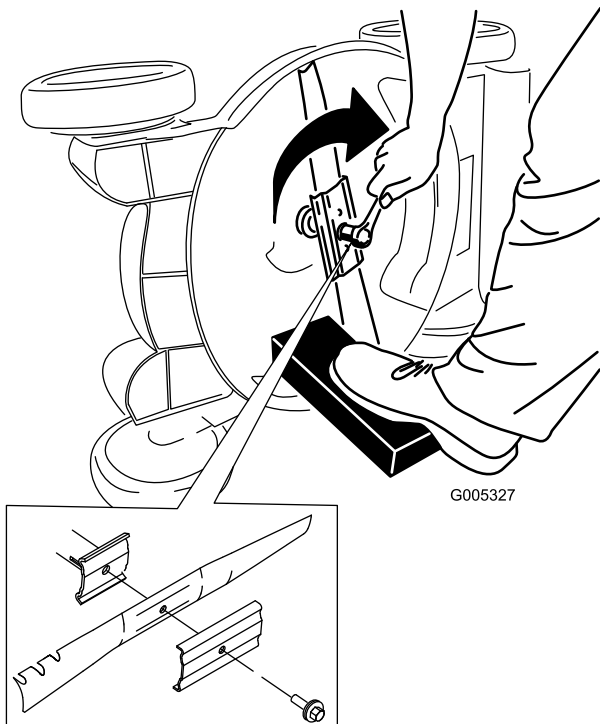

Figure 28
- Install the new blade and all mounting hardware (Figure 28).